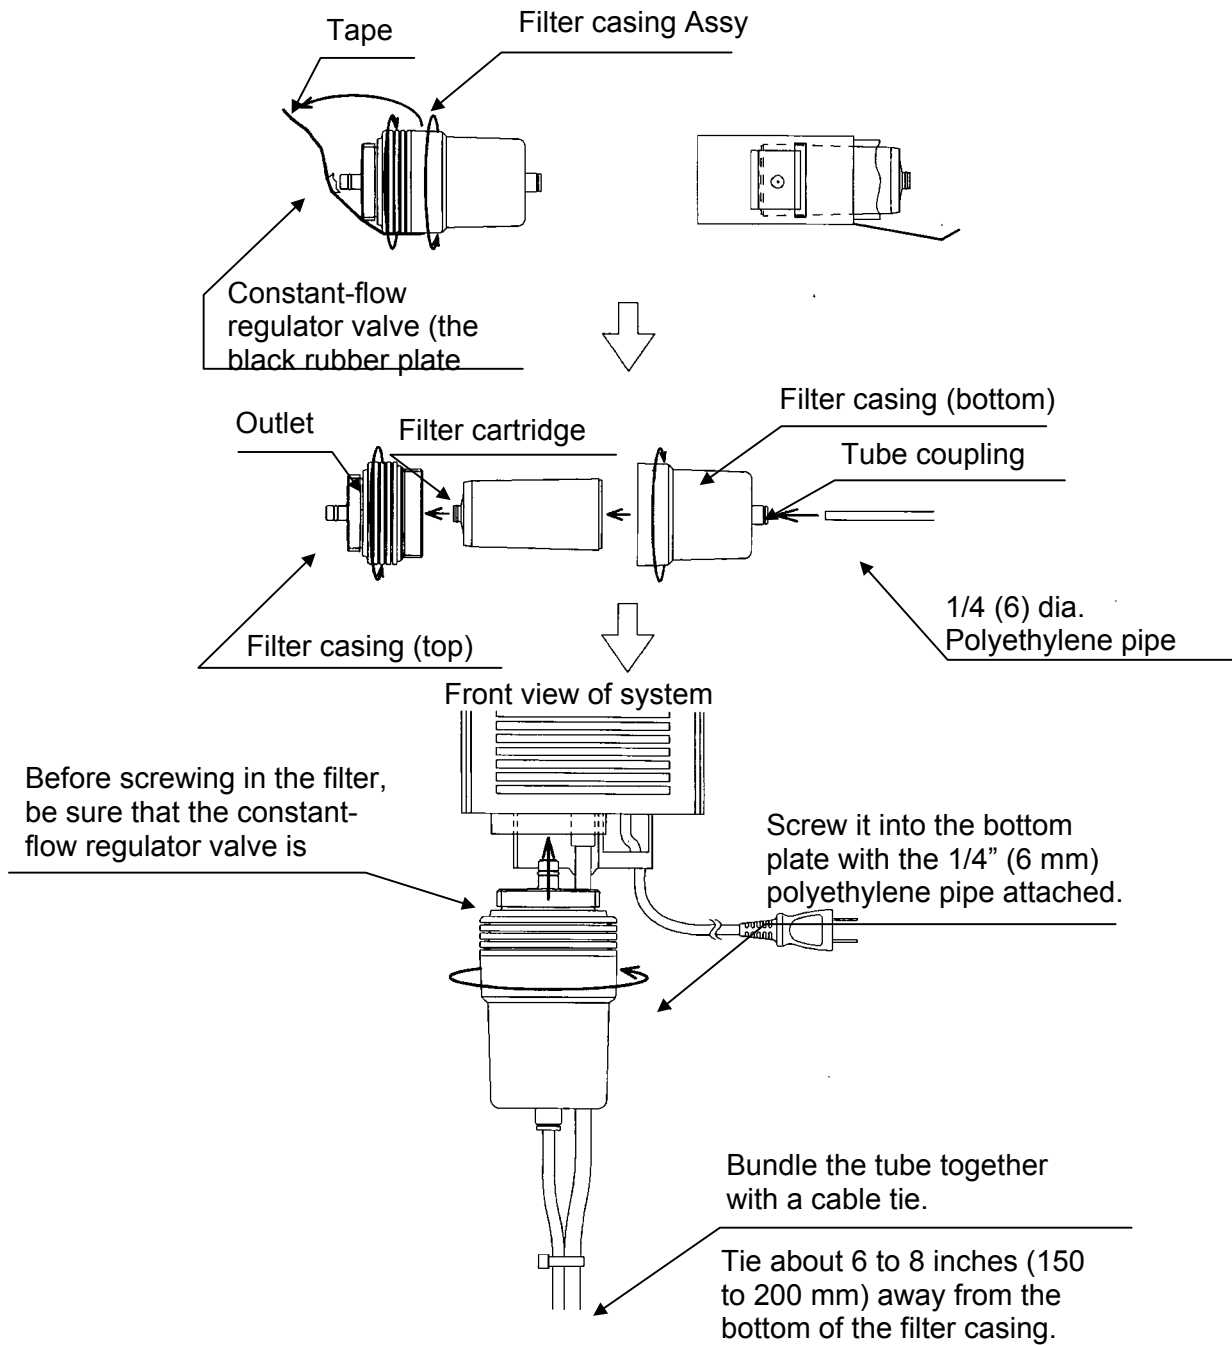

Fig. 6
- (1) Take the feed-water line off the outlet side of the water softener. (The feed-water line connection may be made to the water softener's water sampling valve.)
- (2) Precut the included polyethylene pipe, 1/4" (6 mm) dia., to the length required for the installation, and firmly insert the end into the tube coupling.
- (3) Assemble the filter according to the following procedure (see Fig. 6):